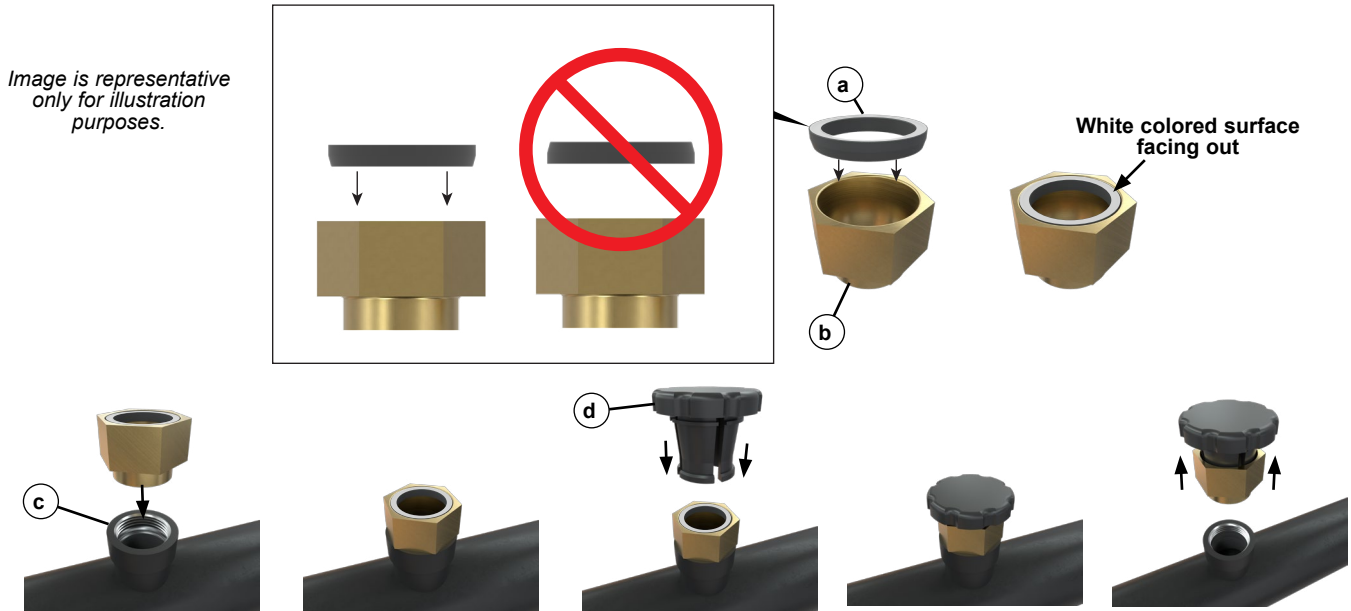

Figure 5: New Gasket Installation
6. Refer to Figure 5. Place new gasket (a) into the nozzle (b) with the white colored surface facing out and the chamfered edge going in first (the surface is colored to properly orient the gasket within the nozzle) then place the nozzle into the outlet (c) as shown.